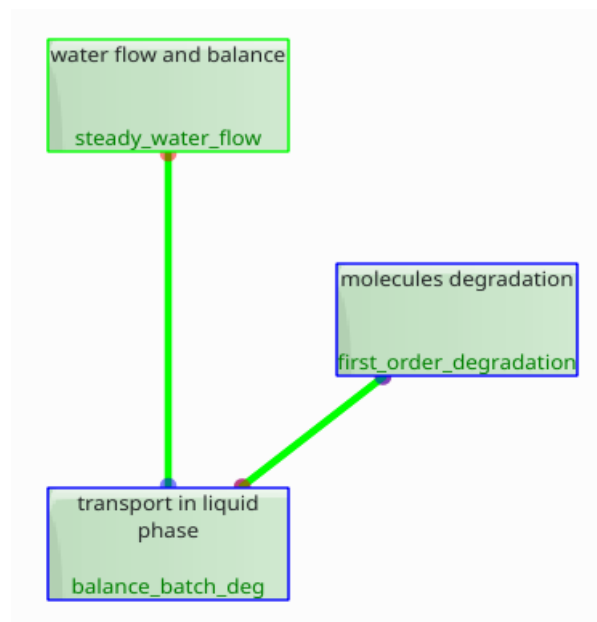
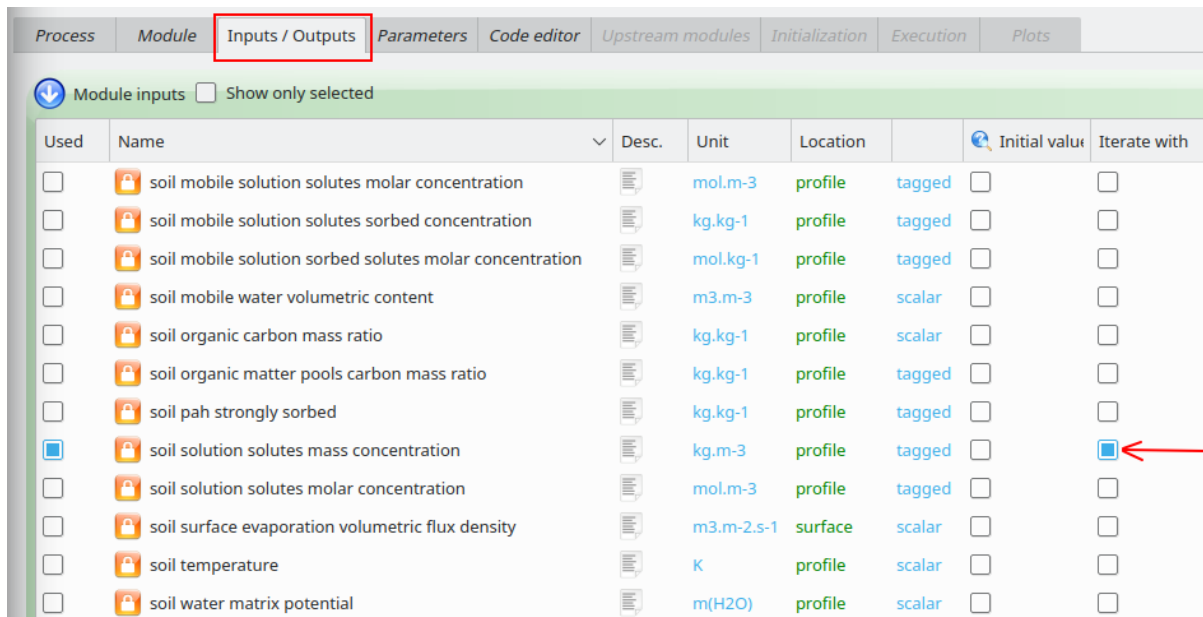
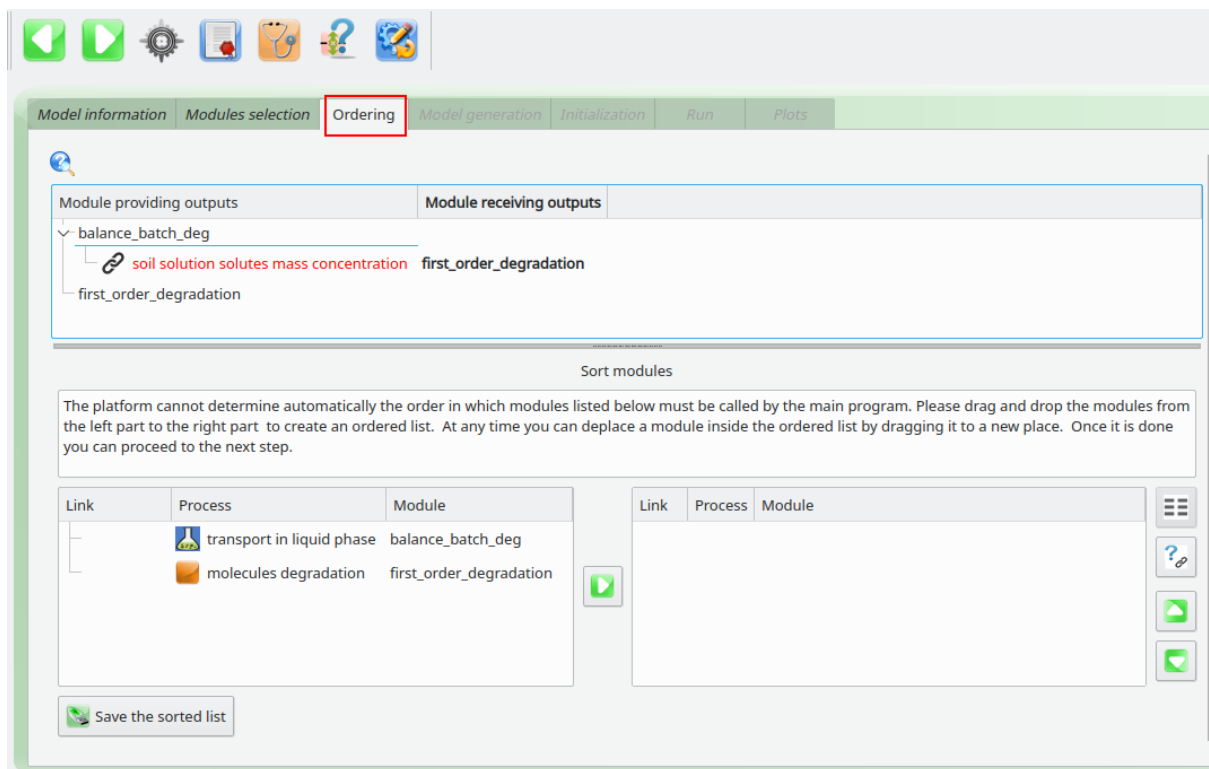

Figure 1: Example of a model containing two coupled modules: *balance_batch_deg* and *first_order_degradation*
Figure 2: Tag a module input as *Iterate with* (*Inputs/Outputs* tab of *vsoil-modules* application)
Figure 6: List of modules to be ordered
A typical situation is presented in the model of figure 1. This model is the official model *example_for_modules_iterations* available in *vsoil-models* application. It is composed of three modules:
Edit your module in *vsoil-modules* application. In *Inputs/Outputs* tab, some check boxes are displayed in the *Iterate with* column of the *Module inputs* part of the window (see figure 2). The developer of the module can use these check boxes to indicate that the module can be involved in an iterative loop using the checked input variables. In this figure, the input variable *soil solution solutes mass concentration* of module *first_order_degradation* is tagged as *Iterate with*, so that module *first_order_degradation* will have the ability to handle a process of iterations with the module that produces this variable, that is module *balance_batch_deg* (see figure 1 and the list of inputs/outputs of modules *first_order_degradation* and *balance_batch_deg* presented above).
Remark: instead of tagging *soil solution solutes mass concentration* as *Iterate with*, we could have tagged variable *soil solution solutes degradation rate* that is an input of module *balance_batch_deg*. In this case, module *balance_batch_deg* would have been able to handle the process of iterations with module *first_order_degradation* that produces this variable (see figure 1 and the list of inputs/outputs of modules *first_order_degradation* and *balance_batch_deg* presented above).
When at least one input variable is tagged as *Iterate with* (see figure 2), the two following boolean variables are made available in the *Compute* section of the *Code editor* tab of the concerned module: *iteration_enabled* and *iteration_succeeded* (see the red frames in figure 5). The first (*iteration_enabled*) informs the *Compute* section that the iterations are possible. Note that **iterations are a possibility and not an obligation** for the developer of the module. The second variable (*iteration_succeeded*) must be used by the developer to inform the coupler of the progress of the iterations. By default, *iteration_succeeded* is set to **true**. This means that the coupler will consider that the iterations are successful. In this case the coupler does not call again the module providing
1. Open/create a model containing a module handling iterations. In our example, we open the model *example_for_modules_iterations* presented in figure 1.
2. In *Ordering* tab, the list of modules to be manually ordered is displayed (see figure 6). In upper part of this tab, the  icon appears in front of variable *soil solution solutes mass concentration* because this variable, which is produced by module *balance_batch_deg* and is an input of module *first_order_degradation*, has been previously tagged as *Iterate with* in *vsoil-models* application (see figure 2).
tagged as *Iterate with* (it is marked with the  icon in upper part of *Ordering* tab, see figure 6). The  icon specifies which module receives the variable tagged as *Iterate with*: here it is module *first_order_degradation*. The  icon (open loop) indicates that iterations between two modules are available but not active; the number associated to this icon (0 here, ) identifies the couple of modules that can iterate (case of several couples of modules that can iterate in a model).